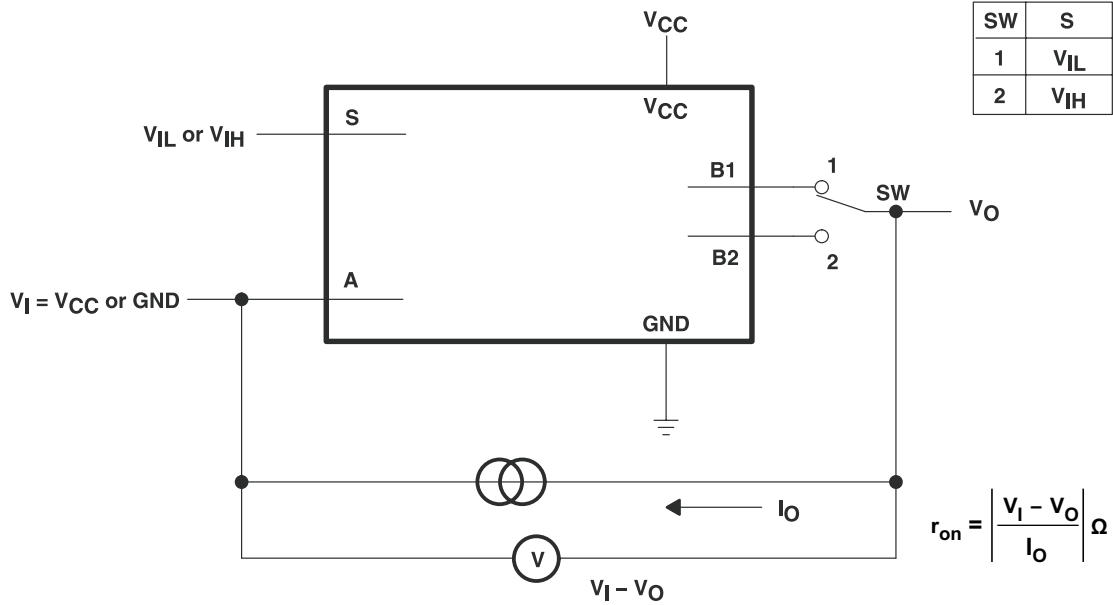

Figure 1. On-State Resistance Test Circuit
| r _{on} | On-state switch resistance ⁽²⁾ See Figure 1 and Figure 2 | V _I = 0 V, I _O = 4 mA | 1.65 V | 11 | 20 | Ω |
| r _{range} | On-state switch resistance over signal range ^{(2) (3)} 0 ≤ V _{Bn} ≤ V _{CC} (see Figure 1 and Figure 2) | I _A = –4 mA, 1.65 V | | | 140 | Ω |
| Δr _{on} | Difference of on-state resistance between switches ^{(2) (4) (5)} See Figure 1 | V _{Bn} = 1.15 V, I _A = –4 mA | 1.65 V | 0.5 | | Ω |